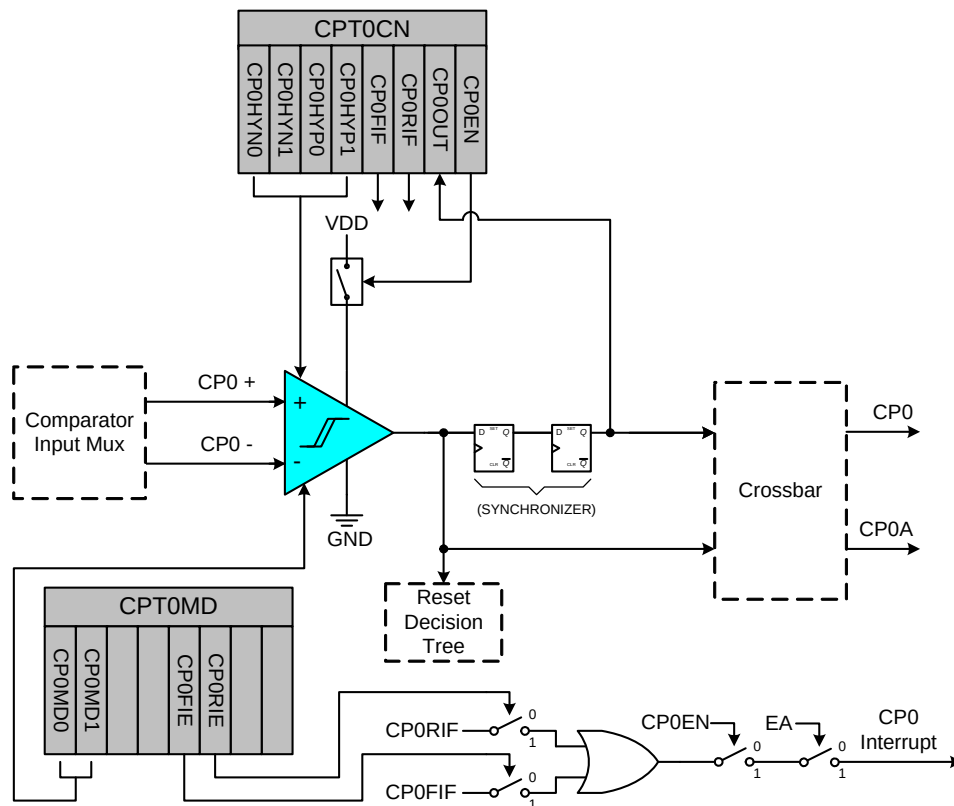

Figure 12.1. Comparator0 Functional Block Diagram
C8051T610/1/2/3/4/5/6/7 devices include two on-chip programmable voltage comparators: Comparator0 is shown in Figure 12.1, Comparator1 is shown in Figure 12.2. The two comparators operate identically with the following exceptions: (1) Their input selections differ as described in Section “12.1. Comparator Multiplexers” on page 65; (2) Comparator0 can be used as a reset source.